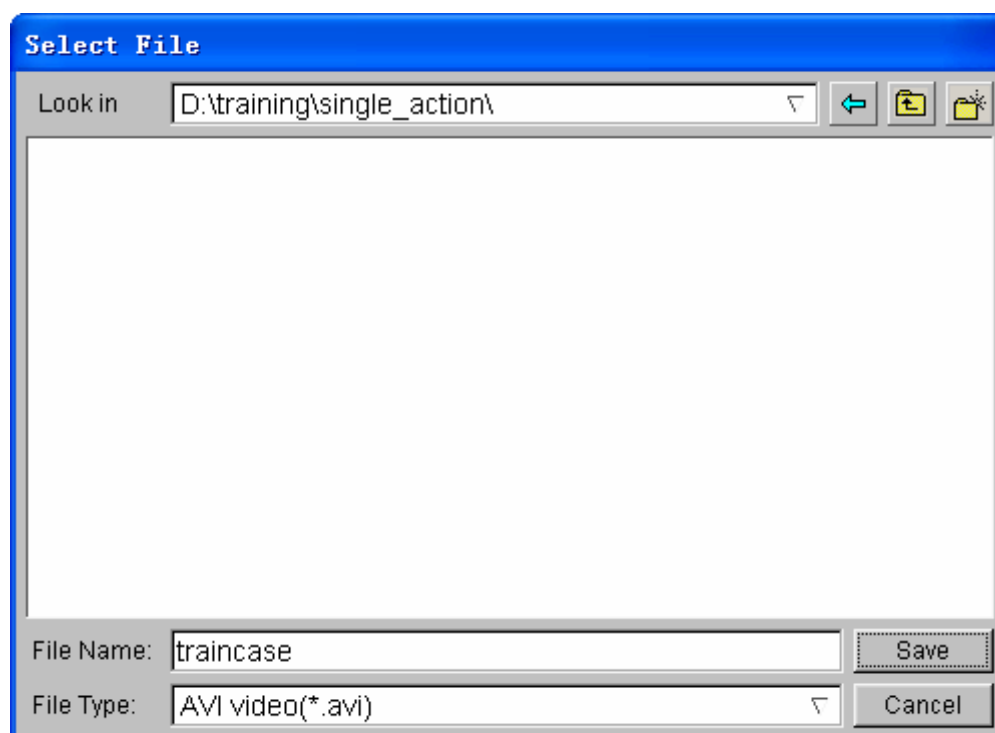

Figure 1.57 Save AVI file
5. Enter a name of the **AVI** movie file (e.g. traincase.avi) at the input data field of File Name illustrated in Figure 1.57.